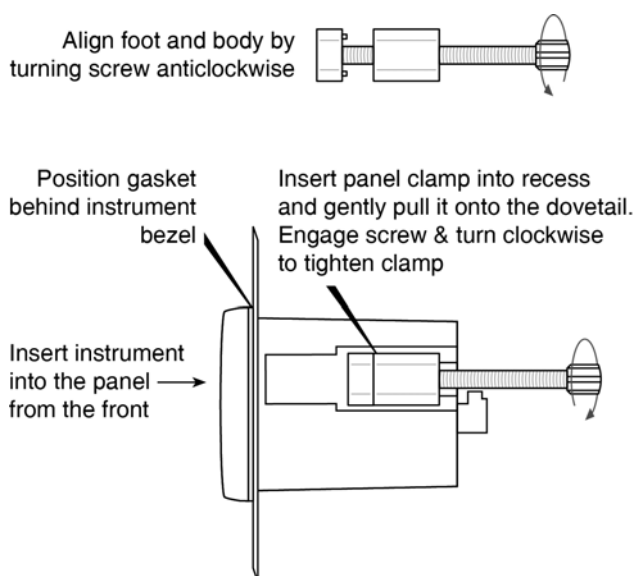

Fig 5 Fitting panel mounting clamps
- Place a clamp in the recess on each side of the Set Point Station, pulling gently to slide it onto the dovetail as shown in Fig 5. Push the knurled screw slightly forward to engage the thread and tighten by turning clockwise until it is just finger tight. When both clamps are fitted ensure that the gasket behind the front panel bezel is correctly positioned before fully tightening the clamps to secure the instrument. The maximum recommended clamp tightening torque is 22cNm (1.95 lbf in) which is approximately equivalent to finger-tight plus one half turn. **Do not over tighten.**